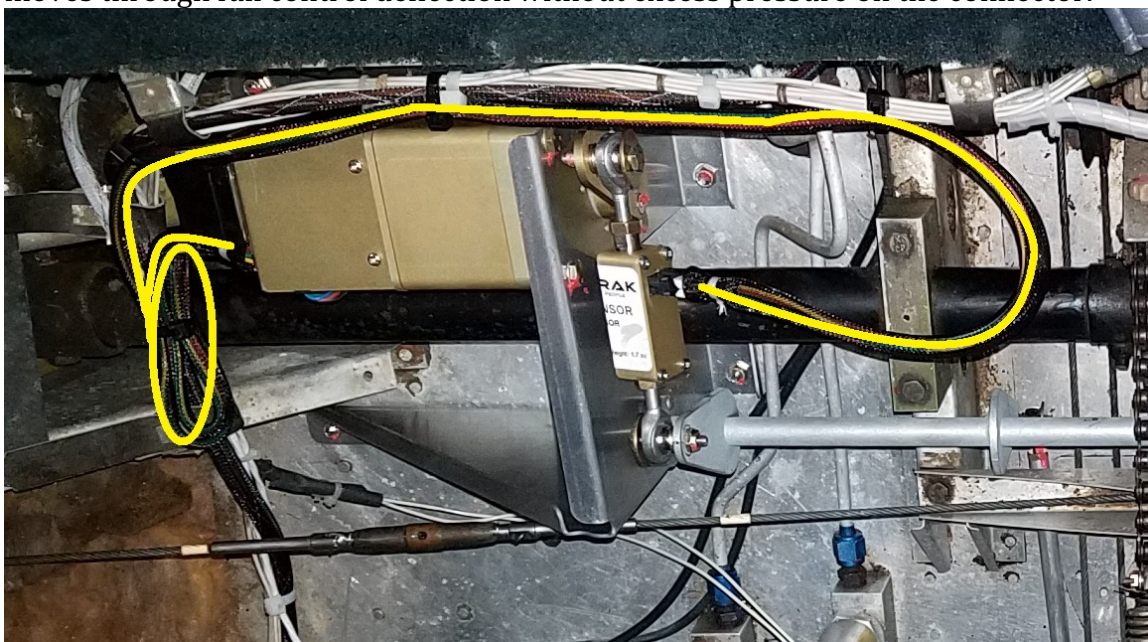

Figure 3-7
8. Secure the Sheathed Microfit Cable Assembly 1M (P/N 6000-064) so that routing is as shown in Figure 3-7. Ensure that cable is free to move as the link sensor moves through full control deflection without excess pressure on the connector.